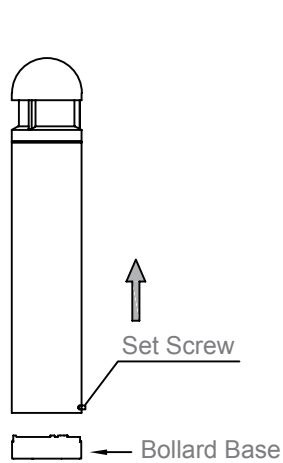

Figure2
4. Loosen the Set Screw (3) with an L-type Wrench (customer supplied), and remove the Bollard Base of the Bollard. See Figure 2.